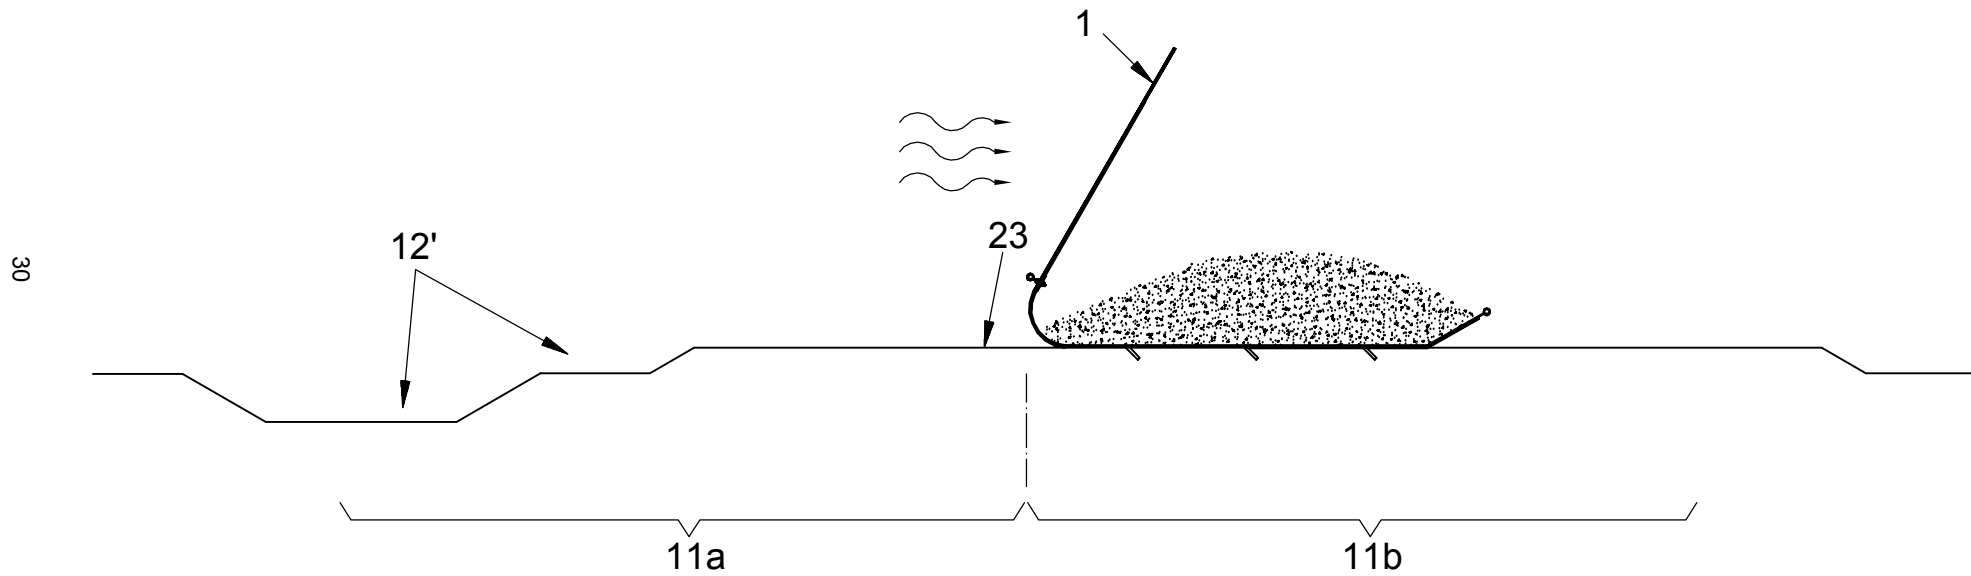

FIG. 5
- The sand accumulated is spread in the same place, creating a new level regarding the initial level and the screen is located in the same place (FIG 5).